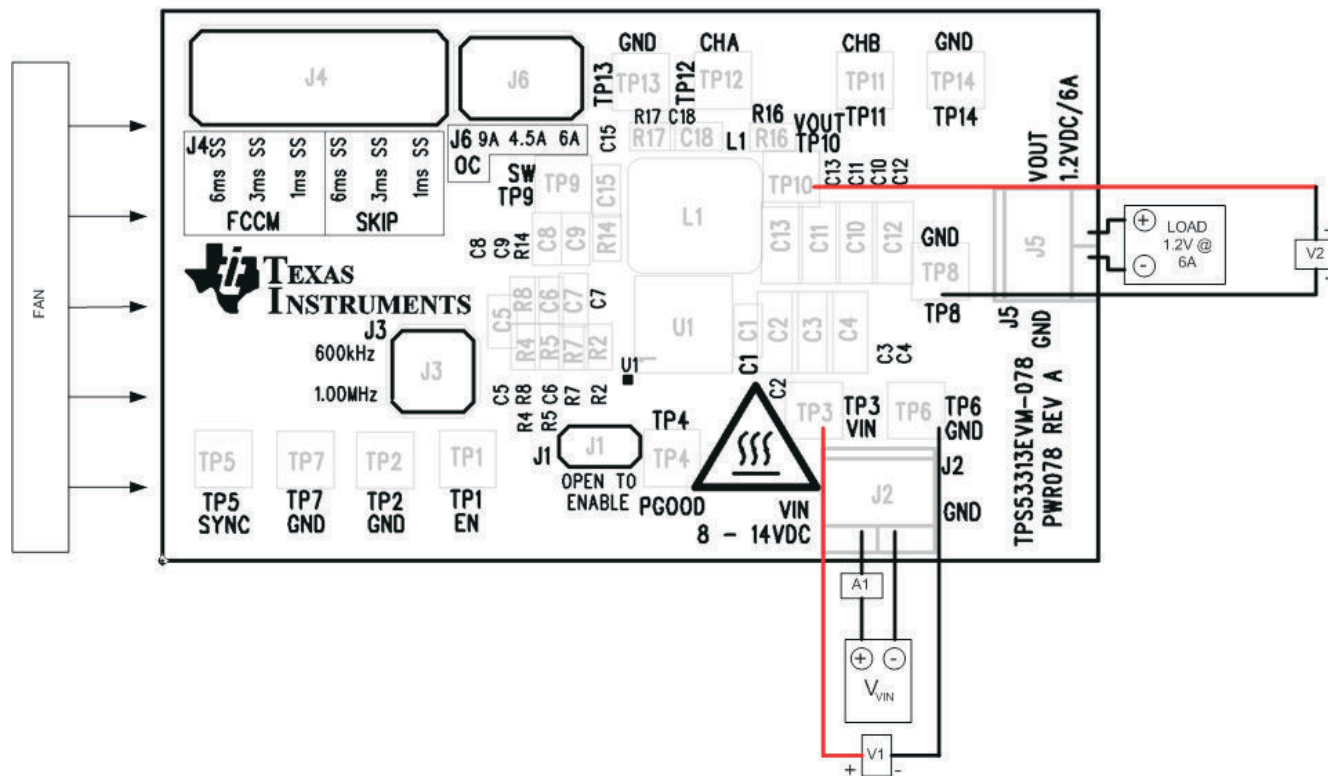

Figure 5-2. TPS53313EVM-078 Recommended Test Set Up
| Figure 5-2. TPS53313EVM-078 Recommended Test Set Up                                                     | 6  |
**Voltage Source (VIN):** The input voltage source, (VIN), should be a 0-V to 15-V variable DC source capable of supplying 2 ADC. Connect VIN to J2 as shown in Figure 5-2.
Figure 5-2 is the recommended test set up to evaluate the TPS53313EVM-078. Working at an ESD workstation, make sure that any wrist straps, bootstraps or mats are connected referencing the user to earth ground before power is applied to the EVM.
- Prior to connecting the DC input source (VIN), it is advisable to limit the source current from VIN to 2 A maximum. Make sure VIN is initially set to 0 V and connected to J2 as shown in Figure 5-2.
- Place a fan as shown in Figure 5-2 and turn on, making sure air is flowing across the EVM.
1. Set up EVM as described in Section 5 and Figure 5-2.